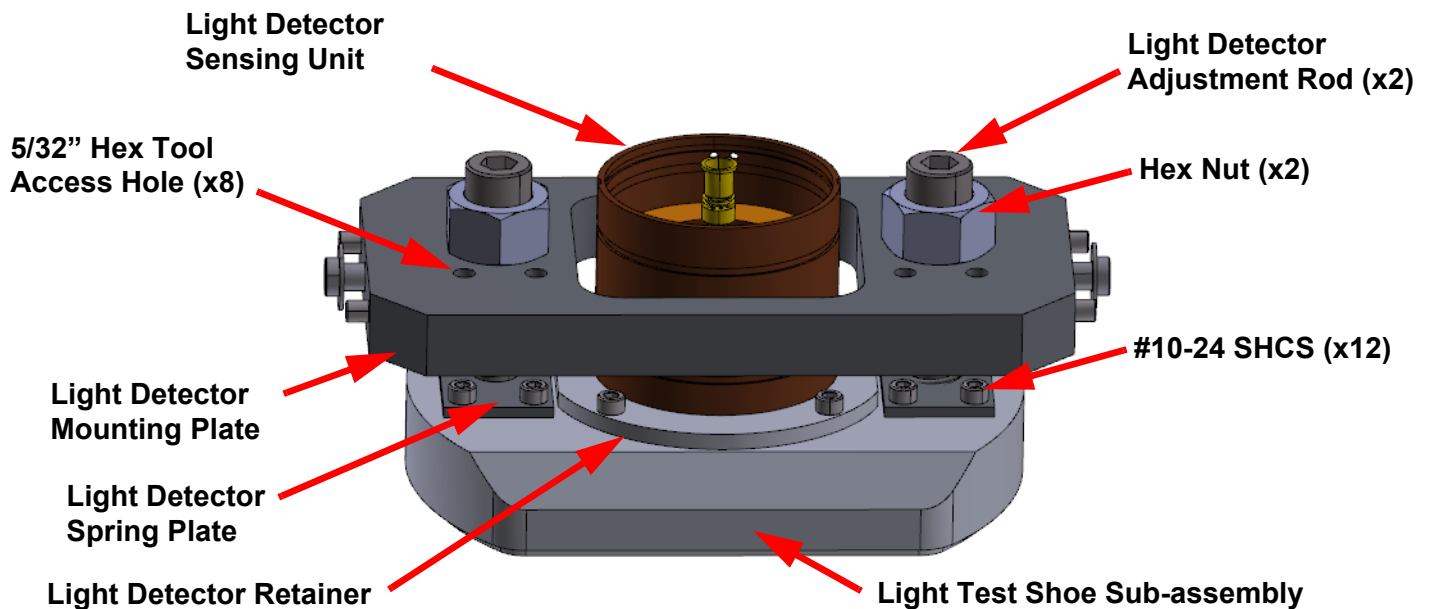

Figure 1-4. Light Tester Detector Assembly
8. Loosen the two hex nuts with a 1 1/8 inch wrench. Refer to Figure 1-4.